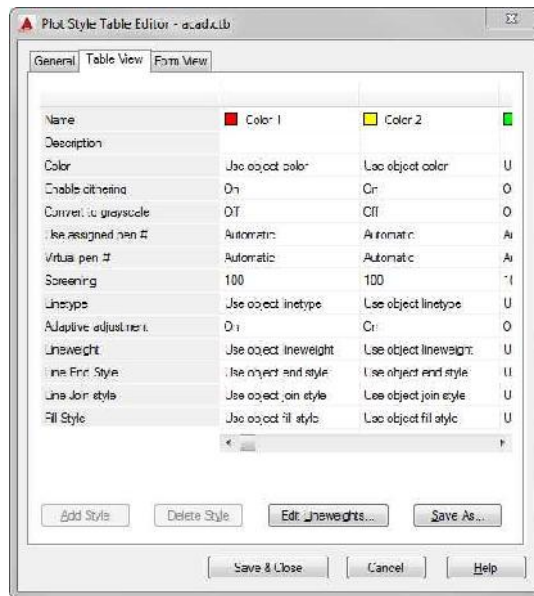

FIGURE 15.20: The Table View tab of the Plot Style Editor dialog box for the acad.ctb file
4. Click the Table View tab (see Figure 15.20).